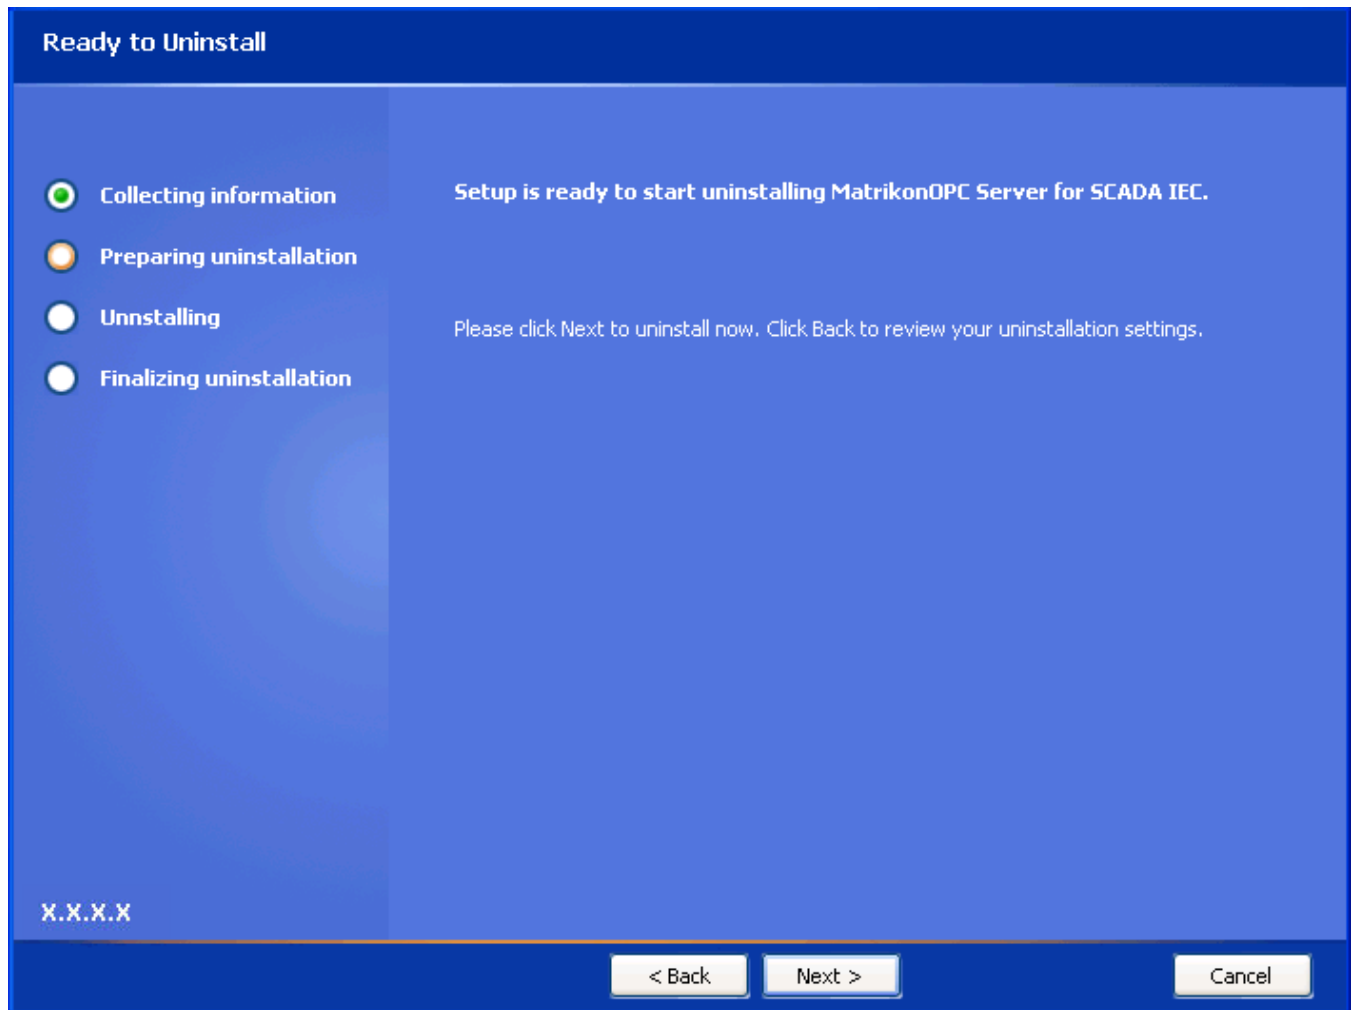

Figure 65 - Ready to Uninstall Screen
8. Click on the **Next** button. The **Ready to Uninstall** screen (Figure 65) is displayed.